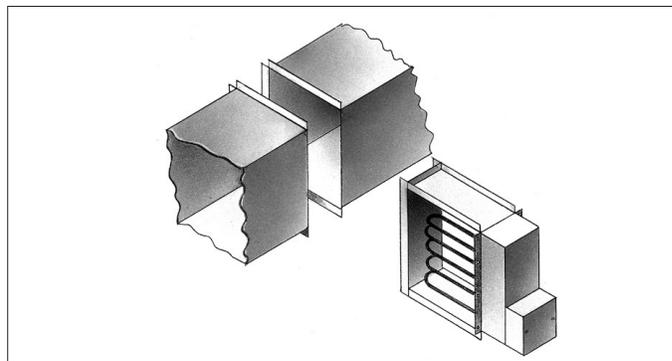

Figure 8 – Flange Type Duct Heater
1. Cut a section out of the duct that is 4" less than the width of the heater. Fold up the sheet metal to form 2" wide flanges on the three sides shown in Figure 8. Install the heater and secure it to the flanges using sheet metal screws or bolts.